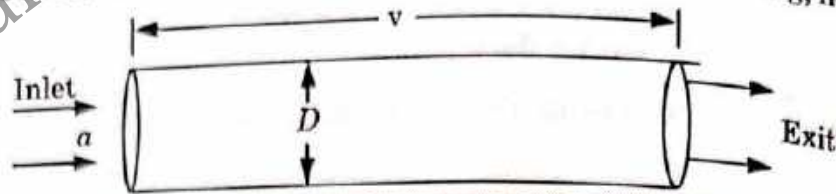

Fig. 4.6.1. Wind flow through the opening.
3. Fig. 4.6.1 shows the motion of wind through the opening of area (a) flowing with velocity (v). The discharge rate (Q) of air through the opening at point 1 and 2 is given as,